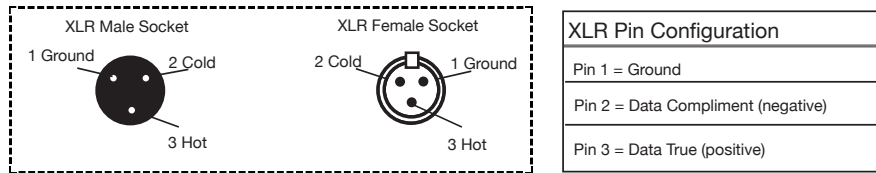

Figure 6
**Notice:** Be sure to follow figures 6 and 7 when making your own cables. Do not use the ground lug on the XLR connector. Do not connect the cable's shield conductor to the ground lug or allow the shield conductor to come in contact with the XLR's outer casing. Grounding the shield could cause a short circuit and erratic behavior.